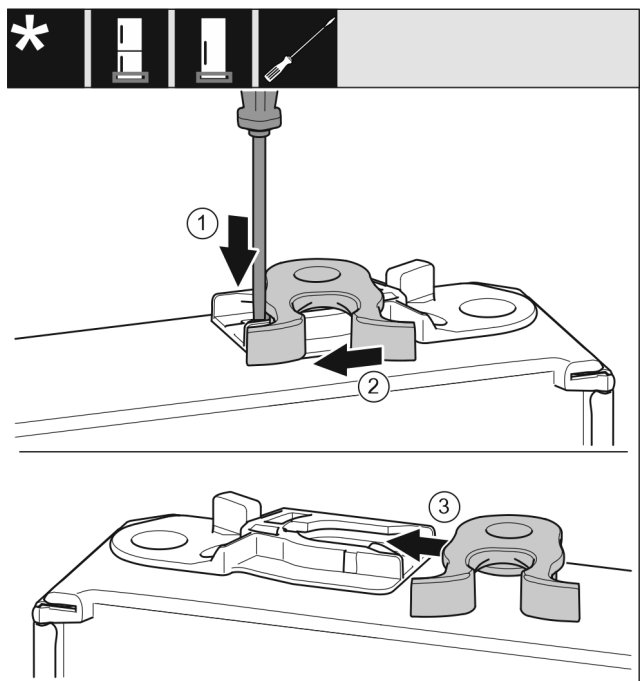

Fig. 17
- ▶ Push the lug downwards with a slotted screwdriver. Fig. 17 (1)
- ▶ Pull the door latch out of the guide. Fig. 17 (2)
- ▶ Push the door latch into the guide on the other side. Fig. 17 (3)